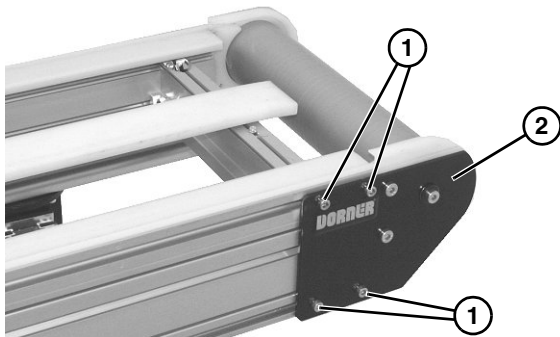

Figure 50
2. On one side of conveyor, loosen the four socket head screws (Figure 50, item 1). Repeat on opposite side.
3. Remove idler tail assembly (Figure 50, item 2).